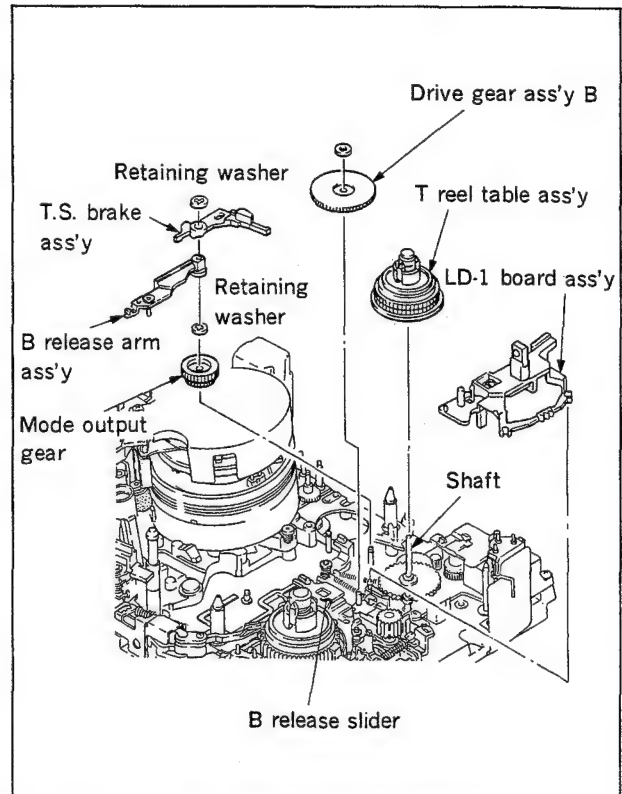

Fig. 4-23-2 Drive gear B ass'y removal
1. Drive gear B ass'y removal (Fig. 4-23-2)
7. Mode output gear removal (Fig.4-23-2)